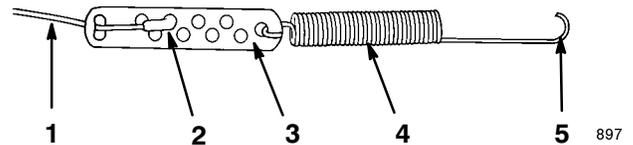

Figure 6
2. Hook the spring into the round hole at the end of the cable adjuster (Fig. 6).
3. Route the cable through the elongated hole in the cable adjuster (Fig. 6).
4. Insert the Z-fitting on the end of the cable into the third hole on the cable adjuster (Fig. 6).